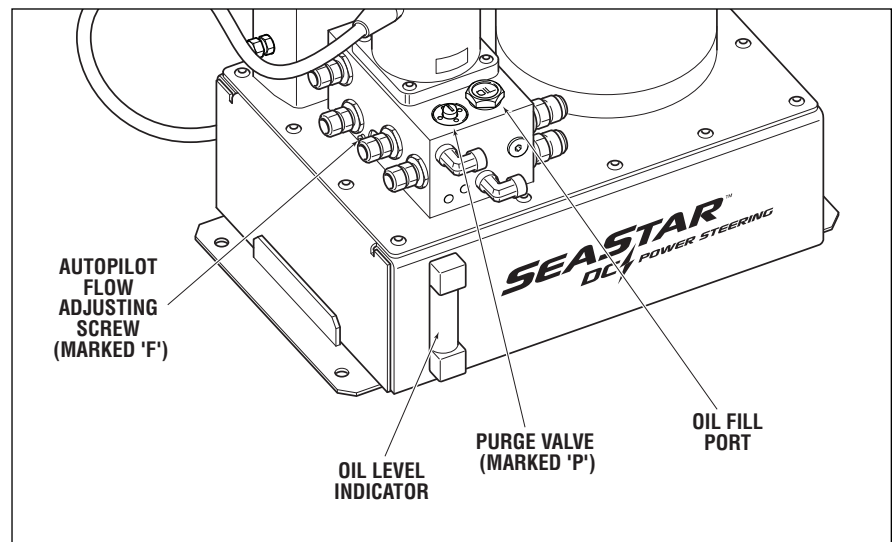

Figure 15.
- 1 Fill DC Power Unit tank with SeaStar Steering Fluid to the "FULL" line on sight glass, DO NOT OVERFILL (refer to Figure 15 for location of sight glass).
- 5 Open purge valve by rotating counter-clockwise until valve seats. (Purge valve marked with the letter P on Power Unit, refer to Figure 15).
- 13 Close Purge Valve completely. Torque to 80 in-lb. (Purge valve marked with the letter P on Power Unit, refer to Figure 15).
- 1 Fill DC Power Unit tank with SeaStar steering fluid to the full line on sight glass; DO NOT OVERFILL. (Refer to Figure 15 for location of sight glass.)
- 5 Open the purge valve by rotating counter-clockwise until the valve seats. (Purge valve marked with the letter P on Power Unit; refer to Figure 15.)
The DC Power Unit is supplied with the autopilot pump set to "full speed" This will give approximate 60 cu in/min of flow. To adjust the autopilot speed, locate the adjusting screw (refer to Figure 15). To reduce speed, turn adjusting screw counter-clockwise until the desired autopilot speed is achieved.